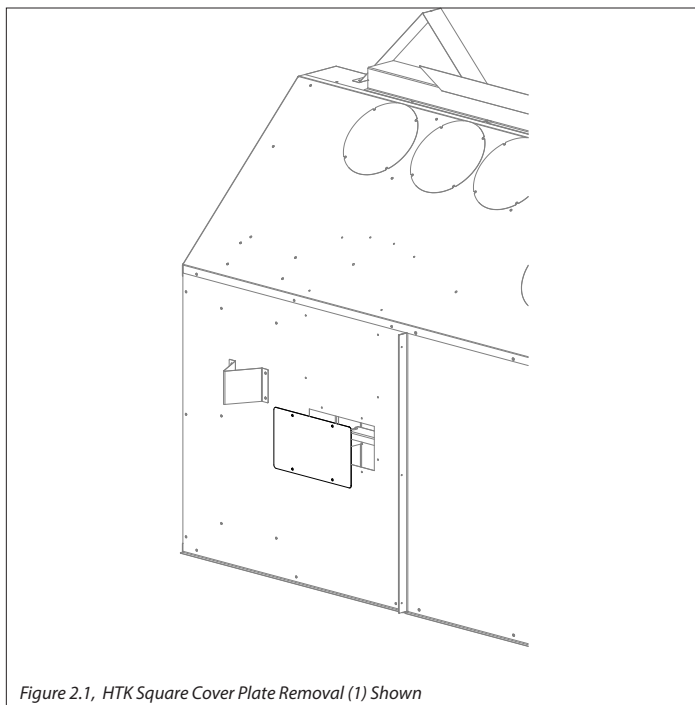

Figure 2.1, HTK Square Cover Plate Removal (1) Shown
1. The outer shell of your fireplace will have square cover plate(s) for use with heat transfer kits. Reference the fireplace manual for the location of your heat transfer kit cover plates. See Figure 2.1.